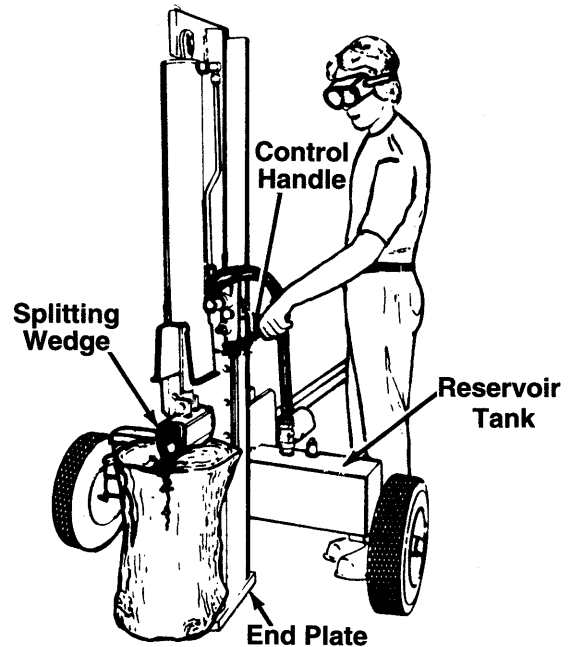

FIGURE 13.—Vertical Position
Use the log splitter only on a level, hard surface. Never stand next to the splitting wedge when operating the log splitter. Always stand behind the reservoir tank. See figures 13 and 14. Never attempt to cut a log in half sideways. Always split the log lengthwise. Maximum length of log to be split is 24".
- Step behind the reservoir tank (see figures 13 or 14) and push the control handle in forward position until the log is split.